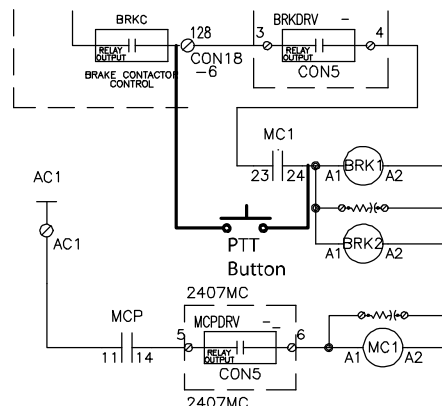

Figure 2 - Momentary Normally Open Push Button
5. Temporarily connect a momentary normally open pushbutton (PTT) between terminal 128 (CON18-6) on the IOC Card and the normally open contact (24) on MC1 contactor. See Figure 2 for connection diagram.